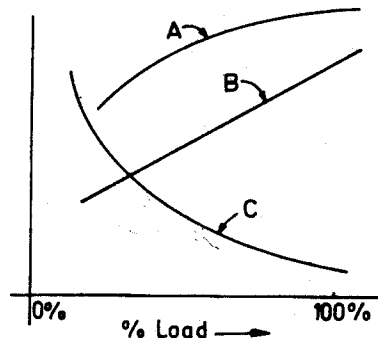

Fig. 6
9. Fig. 6 shows how the exhaust temperature, brake mean effective pressure, and specific fuel consumption vary in a typical stationary diesel engine. These parameters are represented by the curves